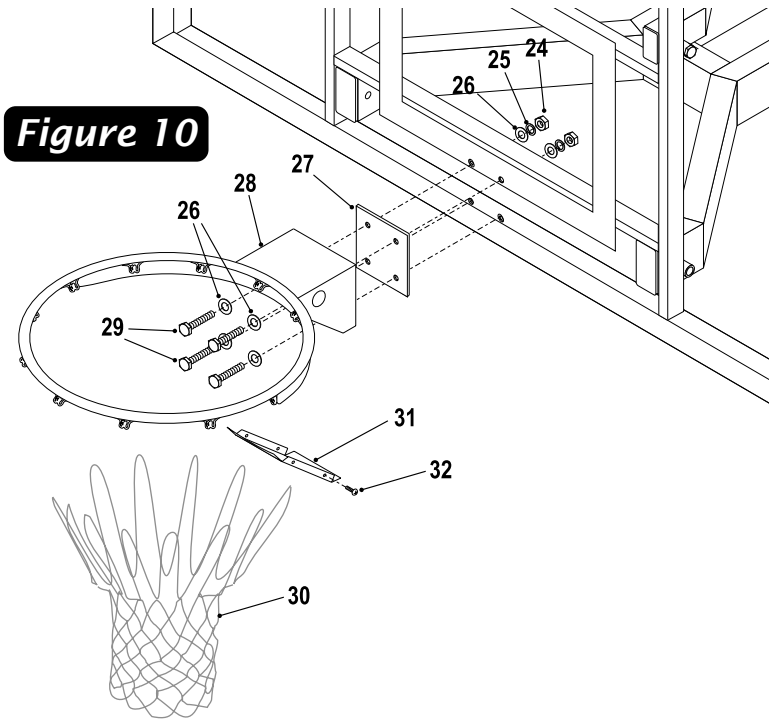

Figure 10
- Remove protective backboard covering and mount Goal Assembly (#28) and Rim Pad (#27) to Backboard, as shown in Figure 10, using four bolts (#29), eight washers (#26), four lockwashers (#25) and four nuts (#24). Tighten fasteners finger tight, leave them loose enough to level rim.
- Attach Rim Cover Plate (#31) using four screws (#32). See Figure 10. **CAUTION! Never use rim with coverplate removed!**